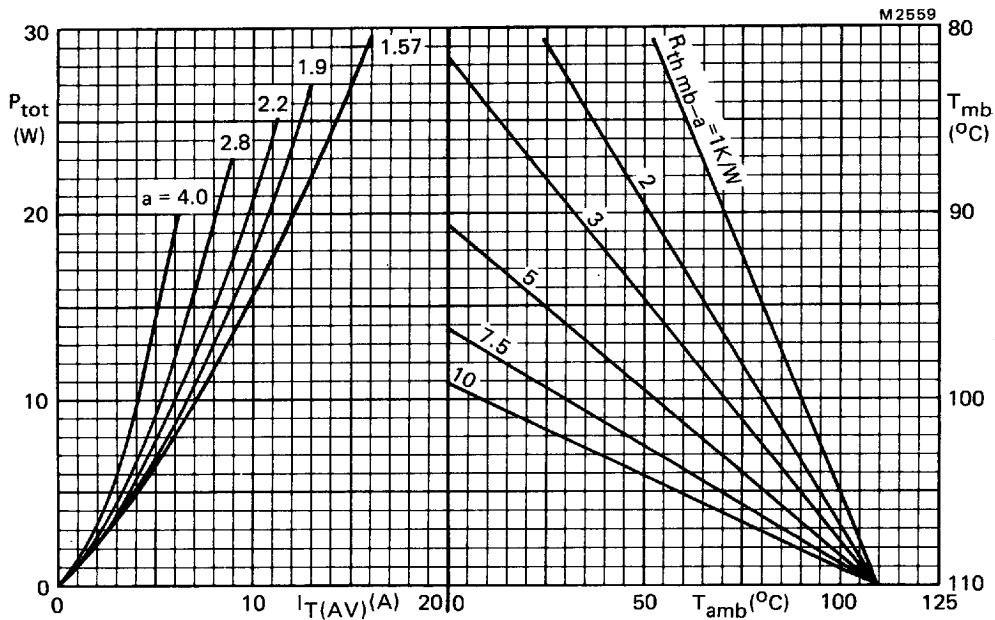

Fig.5 The right-hand part shows the interrelationship between the power (derived from the left-hand part) and the maximum permissible temperatures.
- b. The method of using Fig.5 is as follows: